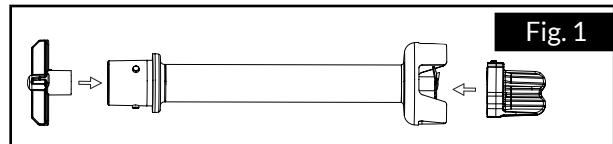

Fig. 1
2. Fix the blade removal kit on both sides of the shaft (Fig. 1).